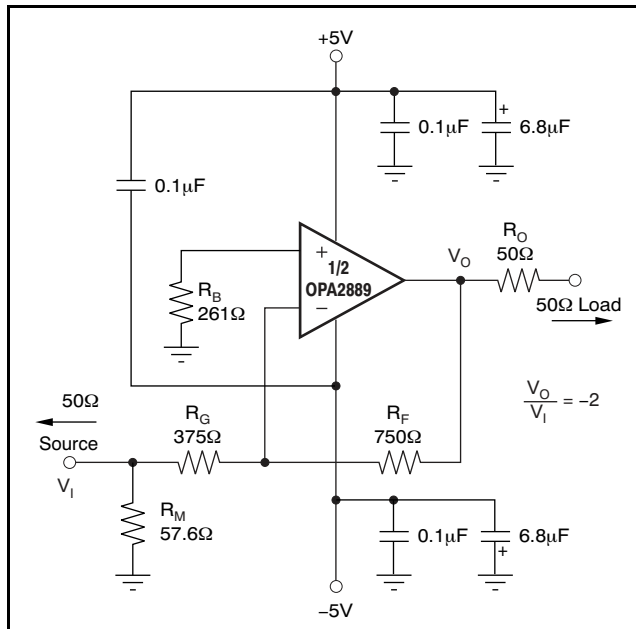

Figure 60. Gain of  $-2V/V$  Example Circuit
The OPA2889 is a general-purpose, wideband, voltage-feedback op amp; therefore, all of the familiar op amp application circuits are available to the designer. Inverting operation is one of the more common requirements and offers several performance benefits. See Figure 60 for a typical inverting configuration where the I/O impedances and signal gain from Figure 50 are retained in an inverting circuit configuration.
In the inverting configuration, three key design considerations must be noted. The first is that the gain resistor ( $R_G$ ) becomes part of the signal channel input impedance. If input impedance matching is desired (which is beneficial whenever the signal is coupled through a cable, twisted-pair, long PCB trace, or other transmission line conductor),  $R_G$  may be set equal to the required termination value and  $R_F$  adjusted to give the desired gain. This consideration is the simplest approach and results in optimum bandwidth and noise performance. However, at low inverting gains, the resultant feedback resistor value can present a significant load to the amplifier output. For an inverting gain of  $-2V/V$ , setting  $R_G$  to 50Ω for input matching eliminates the need for  $R_M$  but requires a 100Ω feedback resistor. This approach has the interesting advantage that the noise gain becomes equal to  $2V/V$  for a 50Ω source impedance—the same as the noninverting circuits considered in Figure 60. The amplifier output, however, now sees the 100Ω feedback resistor in parallel with the external load. In general, the feedback resistor should be limited to the 200Ω to 1.5kΩ range. In this case, it is preferable to increase both the  $R_F$  and  $R_G$  values (see Figure 60), and then achieve the input matching impedance with a third resistor ( $R_M$ ) to ground. The total input impedance becomes the parallel combination of  $R_G$  and  $R_M$ .
The second major consideration, touched on in the previous paragraph, is that the signal source impedance becomes part of the noise gain equation and influences the bandwidth. For the example in Figure 60, the  $R_M$  value combined in parallel with the external 50Ω source impedance yields an effective source driving impedance of  $50\Omega \parallel 57.6\Omega = 26.7\Omega$ . This impedance is added in series with  $R_G$  for calculating the noise gain (NG). The resulting NG is  $2.86V/V$  for Figure 60, as opposed to only  $2V/V$  if  $R_M$  could be eliminated as discussed above. Therefore, the bandwidth is slightly lower for the gain of  $-2V/V$  circuit of Figure 60 than for the gain of  $+2V/V$  circuit of Figure 50.
The third important consideration in inverting amplifier design is setting the bias current cancellation resistor on the noninverting input ( $R_B$ ). If this resistor is set equal to the total dc resistance looking out of the inverting node, the output dc error, as a result of the input bias currents, is reduced to  $(\text{Input Offset Current}) \times R_F$ . If the 50Ω source impedance is dc-coupled in Figure 60, the total resistance to ground on the inverting input is 402Ω.
previously recommend maximum value of 400Ω. Keeping both ( $R_F || R_G$ ) and the noninverting input source impedance less than 400Ω satisfies both noise and frequency response flatness considerations. Because the resistor-induced noise is relatively negligible, additional capacitive decoupling across the bias current cancellation resistor ( $R_B$ ) for the inverting op amp configuration of Figure 60 is not required.